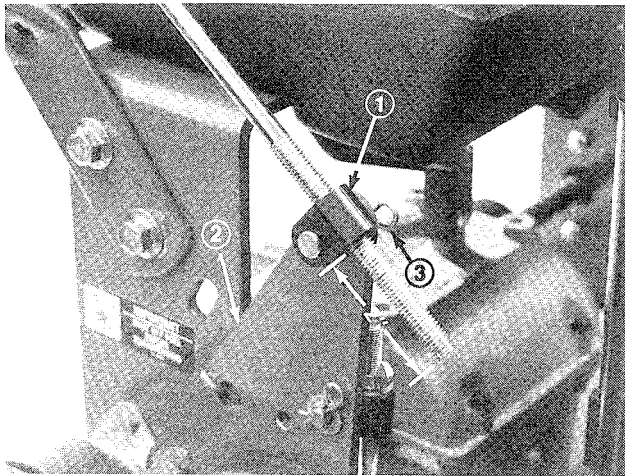
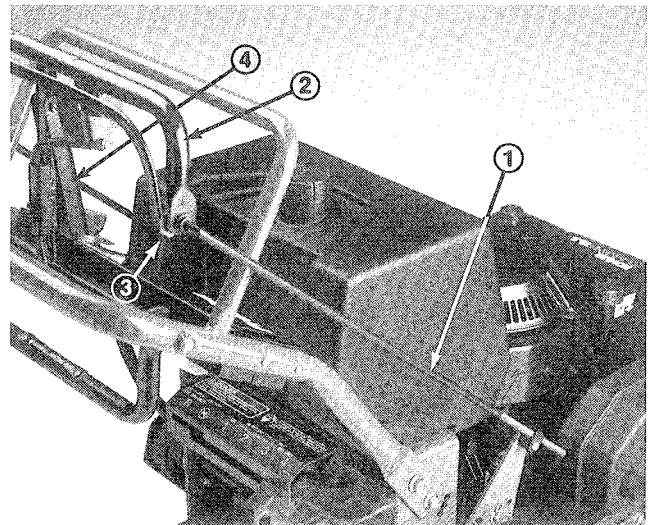

Figure 7
Figure 8
1. Thread a rod fitting onto each control rod approximately 2" (Fig. 7) or until upper control bar (Fig. 8). is approximately perpendicular to the ground.
2. Mount rod fitting ends to mounting holes in idler brackets (from outside) with clevis pins, washers and hairpin cotters (Fig. 7).
3. Check gap between upper control bar and upper handle when fully engaging wheel belts. Gap should be approximately 1 to 1-1/4" (Fig. 8).
5. Brake rods should be adjusted so parking brake lever can be swung into a snug position against the upper handle while pulling back on upper control bar (Fig. 8).